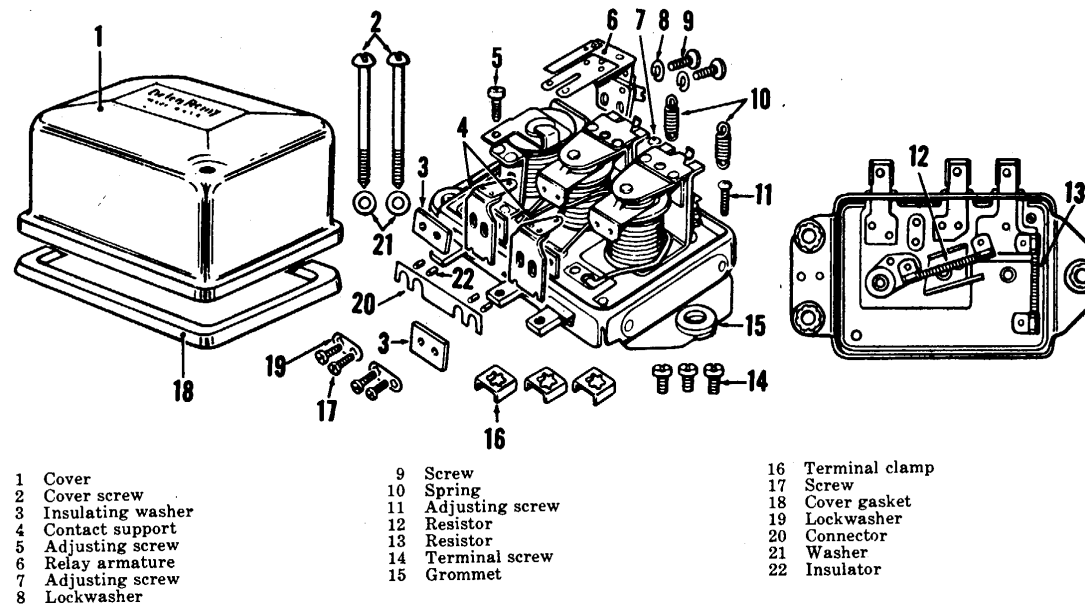

Figure 81. Exploded view of regulator.
c. Disassembly (fig. 81).
- (1) Never disassemble the regulator unless some part requires replacement. This disturbs the electrical and mechanical settings and makes it necessary to completely reset the unit.
- (2) Remove the cover screws (2) and washers (21), and lift off the cover (1). Remove the relay armature (6) by unsoldering the lead and removing the screws (9) and lockwashers (8). Remove the current regulator contact support (4, end unit) by unsoldering the lead and removing the screws (17), lockwasher (19), two insulating washers (3), two insulators (22), upper contact support, and the other insulating washer (3).
d. Cleaning and Inspection. Inspect all the parts. Clean dirty, burned, or oxidized contact points. If contacts are badly pitted they should be replaced. Use a riffer or spoon file to clean out any pits that may have formed on the flat contact. The insulators, screws, washers, and leads must be in good condition.. If the coil windings, stationary relay contact point, or insulators, are burned or otherwise defective, replace the complete regulator. The regulator is of riveted construction, and only the parts shown detached in figure 81 are serviceable items.
e. Reassembly (fig. 81). If the current regulator or voltage regulator armature has been removed, install a replacement armature with the screws, lockwashers, and nuts, furnished with the replacement armature. Assemble the screws down so they do not ground against the cover. Install the voltage regulator contact support (4, middle unit). An insulating washer (3) goes next to the regulator frame, then the contact support, two small insulators (22), the connector (20), insulating washer (3), lockwasher (19), and screws (17). Note that this connects the connector to the contact support. Install the current regulator contact support (4, end unit). An insulating washer (3) goes next to the regulator frame, then the contact support, two small insulators (22), insulating washer (3), connector (20), insulating washer (3), lockwasher (19), and screws (17). This fastens the connector (20). The connector is insulated from the current regulator contact support. Resolder the lead to the upper contact support. Install the relay armature (6) with the screws (9) and lockwashers (8). Resolder the lead to the relay armature. Install the two springs (10).